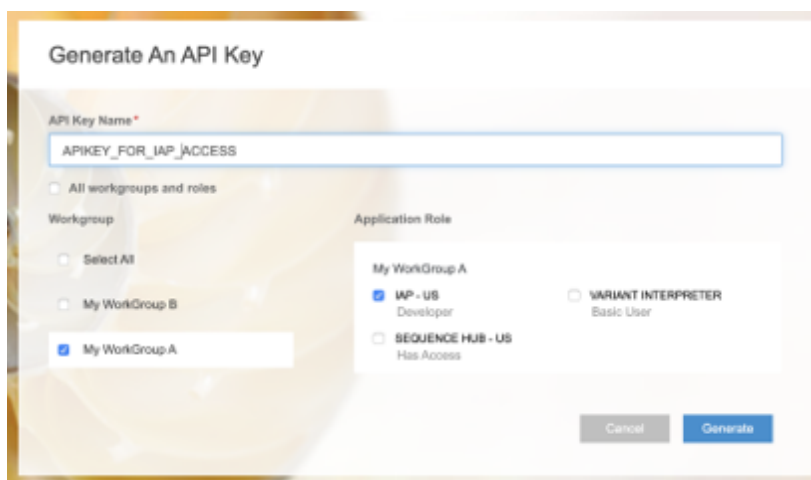

Figure 37: Generate an API Key dialog
- Click Generate to open the Generate an API Key dialog (Figure 37) .